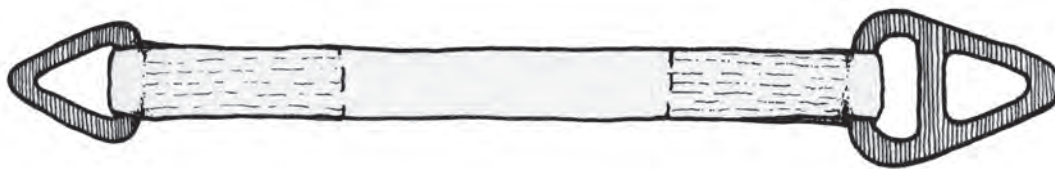

Figure 5-3—A choker nylon flat sling.
- Manufacturers design a choker-hitch sling (figure 5-3) with aluminum or steel triangular end devices sewn onto the ends of the sling. Like the basket-hitch sling, one end has a metal triangle. The other end has a forged choker that allows the end with the metal triangle to slip through. You can use this type of sling in a vertical, basket, or choker configuration.